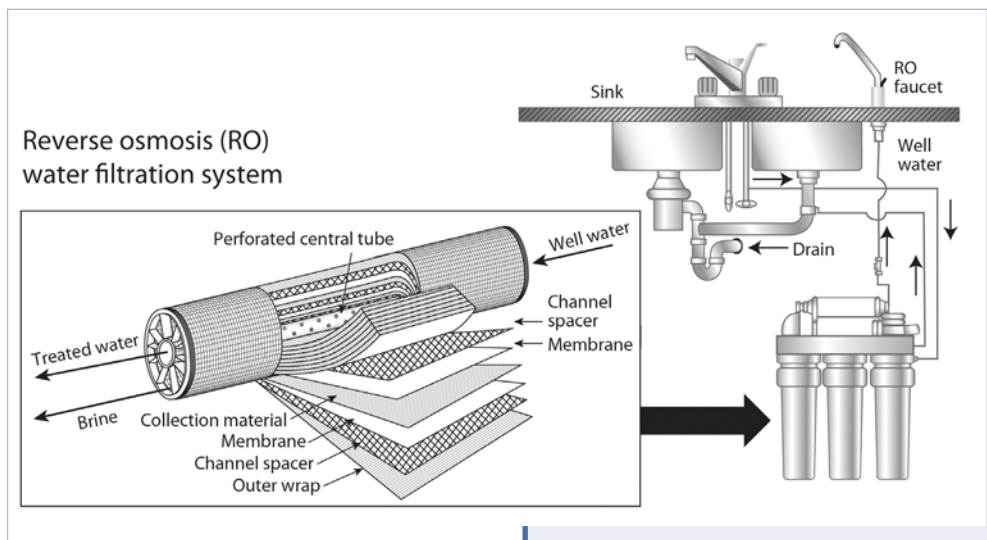

Figure 55. A home reverse-osmosis system.
Reverse osmosis (RO) is becoming a common home treatment method for reducing arsenic and total dissolved solids in drinking water (Fig. 55). Best known for its use in water desalination projects, this method can also reduce chemical contaminants associated with unwanted color and taste. It may reduce up to 80 percent of pollutants such as arsenic and uranium, and many types of organic chemicals.